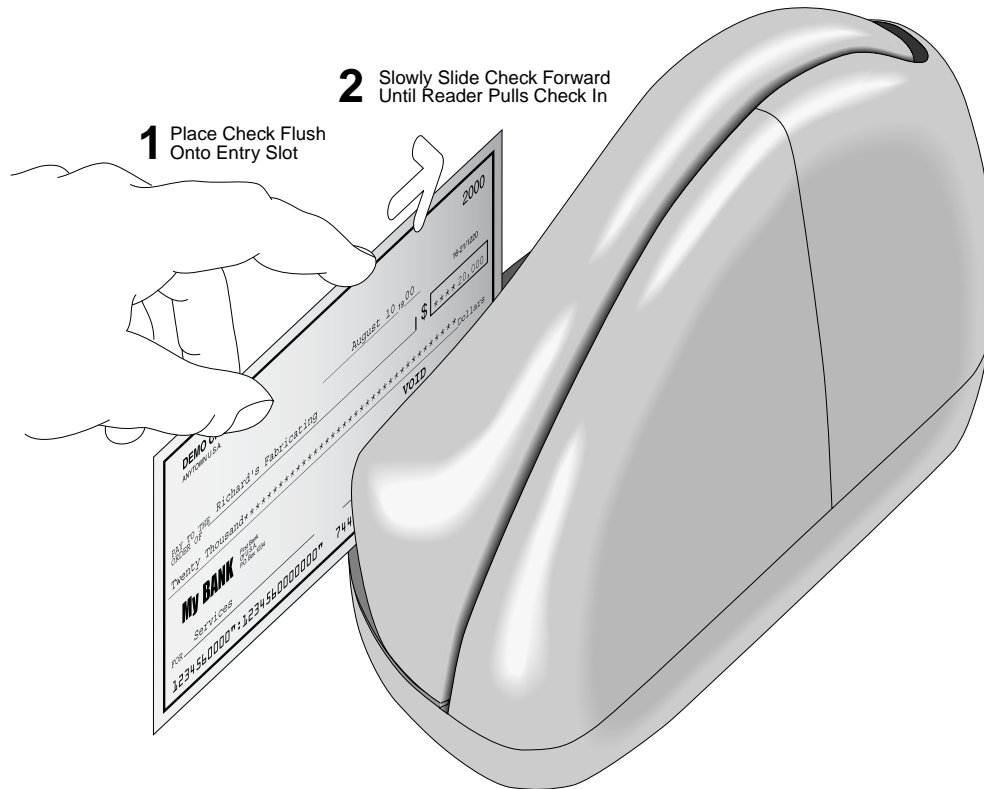

Figure 3-1. Check Orientation - Insertion
1. Orient the check so the MICR line is down and the printed side faces the center of the MICRImage as indicated in Figure 3-1.